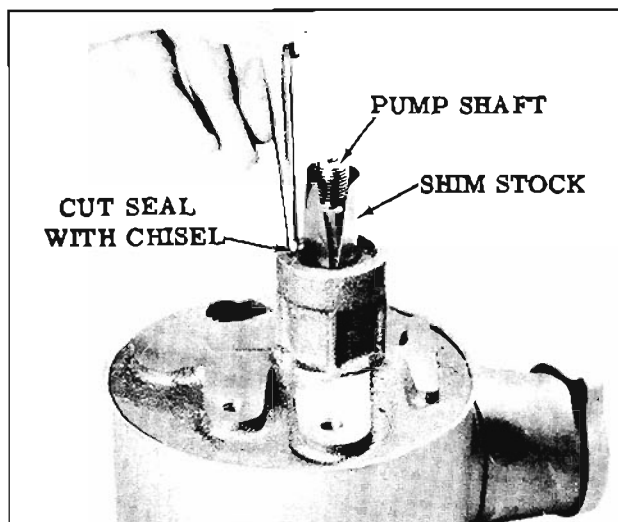

Fig. 8-22 Cutting Pump Seal
1. With the pump pulley removed, bend a piece of .005" shim stock (approximately 2-1/2" long) into a cylindrical shape, then push the shim stock past seal until it bottoms in pump body. (Fig. 8-22)
2. Cut metal body of seal with a small chisel as shown in Fig. 8-22.